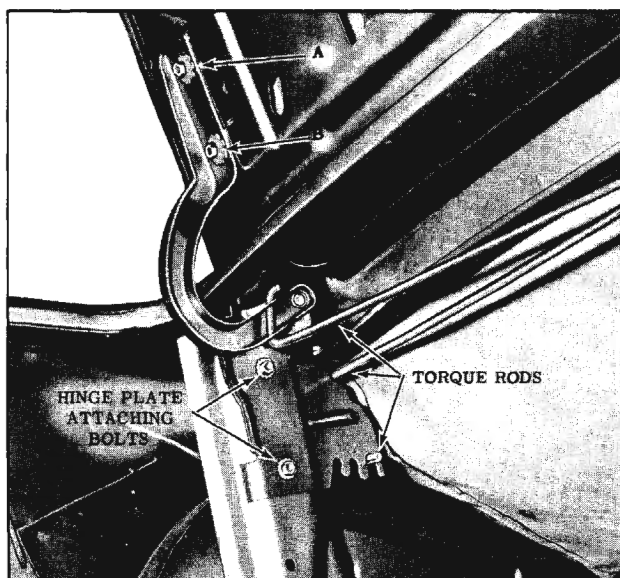
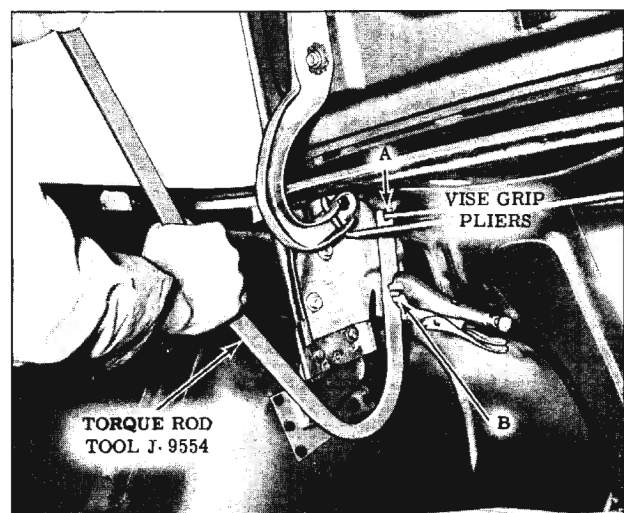

Fig. 16-301 Deck Lid Hinge and Torque Rod (67 Style)
Fig. 16-302 Deck Lid Torque Rod Adjustment
1. To adjust compartment lid forward or rearward, or from side to side in body opening, loosen hinge strap attaching bolts "A" and "B" (Fig. 16-301) on both sides of lid; adjust lid as desired, then tighten bolts.
2. To adjust front of compartment lid up or down loosen hinge plate attaching bolts (Fig. 16-301), adjust lid up or down as desired and tighten bolts.
The amount of effort required to open and close the rear compartment lid is determined by the position of the torque rods in the notches on the hinge mounting plate (Fig. 16-301). If the torque rod is located in the most forward notch, the effort required to open the lid is the greatest and the effort required to close the lid is the least. If the torque rod is located in the most rearward position, the effort required to open the lid is the least and the amount of effort required to close the lid is the greatest. Figure 16-302 illustrates how to use Tool J-9554 to perform these adjustments.
2. Engage notch in end of Tool J-9554 with torque rod to be adjusted ("A", Fig. 16-302) Engage hole in tool with "return crank end" of same torque rod. ("B", Fig. 16-302)
4. Disengage torque rod from hinge plate by raising tool with one hand and holding it firmly against hinge plate with other hand. (Fig. 16-302) Adjust torque rod to desired position, or remove rod completely.
2. Scribe location of hinge strap on lid inner panel and remove bolts "A" and "B" (Fig. 16-301) securing hinge strap to lid.
3. Disengage torque rods from hinge mounting plates using torque rod removing Tool J-9554. Scribe location of hinge plate on hinge brace. Remove hinge plate attaching bolts (Fig. 16-301) and remove hinge from body.
2. Remove lid lock cylinder retainer attaching screws which are located between lid hemming flange and lid lock. (Fig. 16-302)